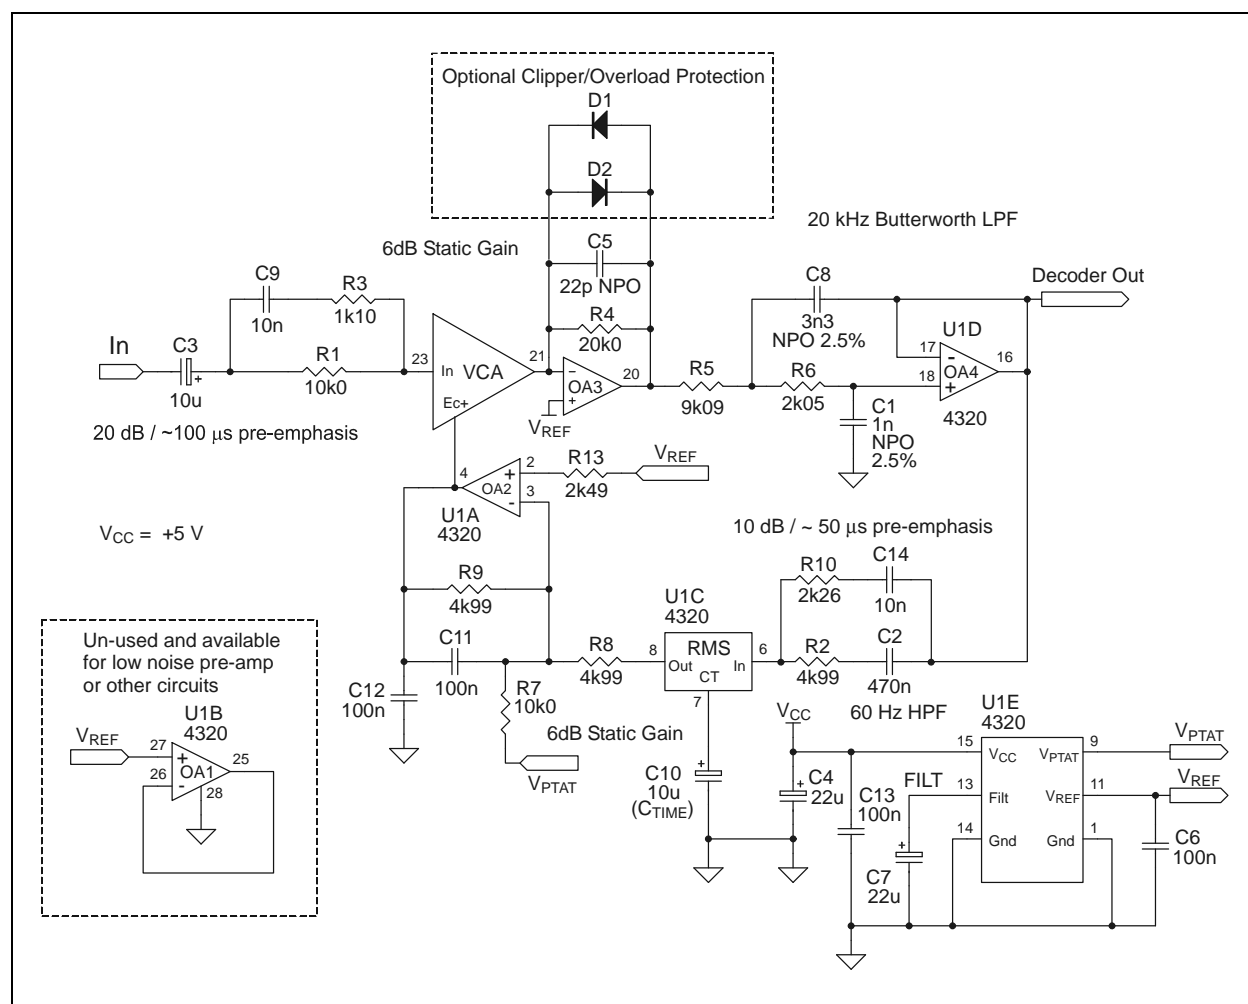
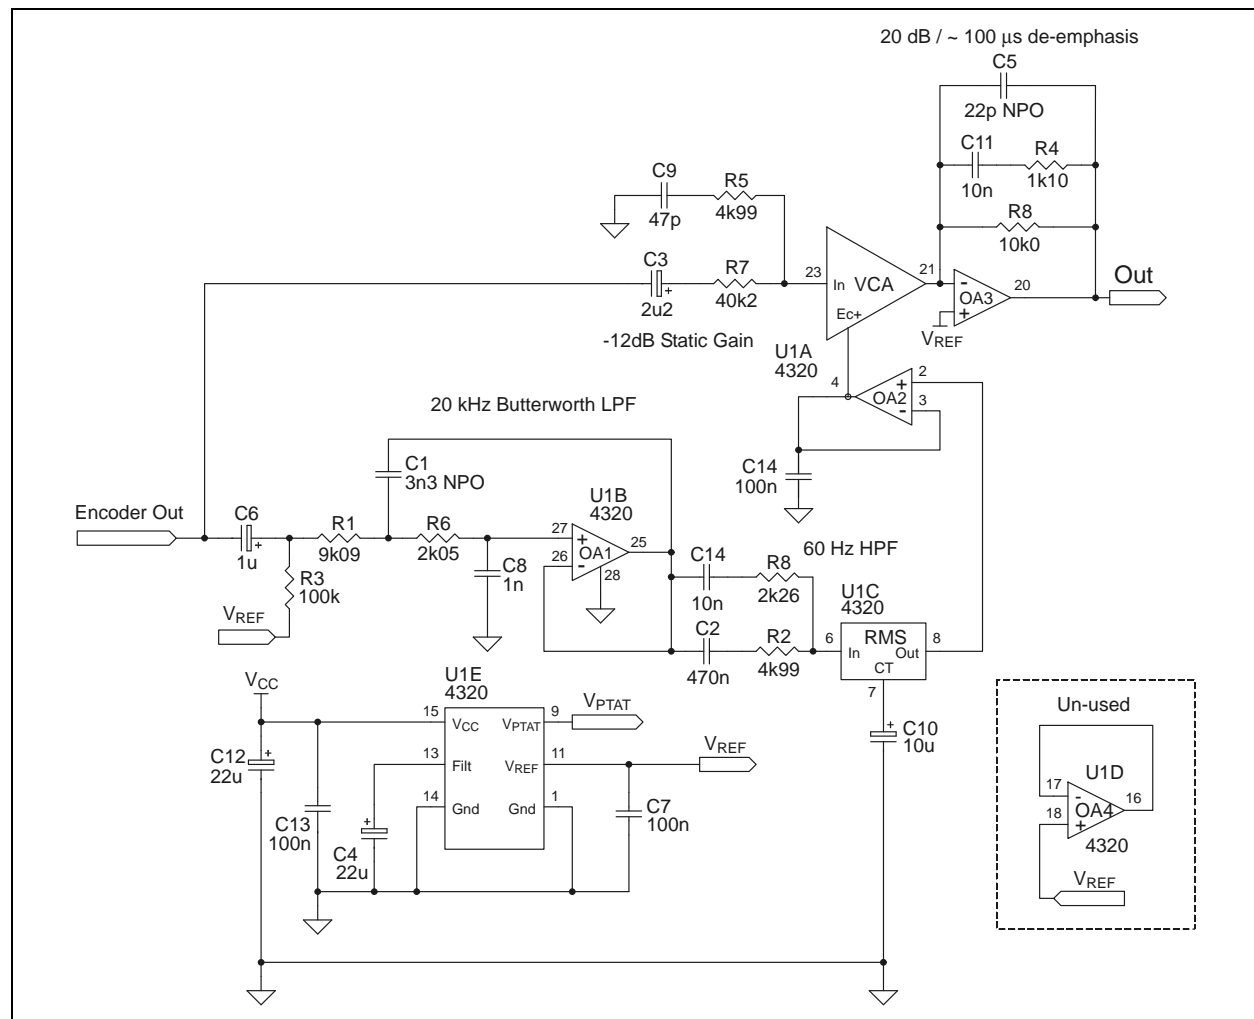

Figure 12. THAT4320 2:1 Encoder Circuit (QSOP-28 pin assignments shown)
Figure 13. THAT4320 2:1 Decoder Circuit (QSOP-28 pin assignments shown)
6. Compressor circuit is as shown in Figure 12. Expander circuit is as shown in Figure 13.
Figure 12 shows a simple 2:1 encoder or feedback compressor. The encoder in a wireless companding system is located in the transmitter and generally operates from a battery supply.
As described in the Theory of Operation section "The RMS Detector - In Brief" (on page 9), the RMS detector is capable of driving large spikes of current into the averaging capacitor C_{TIME} . To prevent these currents from upsetting circuit grounds, it is necessary to bypass V_{CC} to a point very near the grounded end of the C_{TIME} with a capacitor (C_4 in Figure 12) equal to or greater than the value of C_{TIME} . The grounded ends of these two capacitors should be connected together before being tied to the rest of the ground system. Doing so will ensure that the current spikes flow within the local loop consisting of the two capacitors, and stay out of the ground system. This requirement applies to the decoder and other applications of the THAT4320 as well.
Figure 13 shows the THAT4320 configured as a 2:1 expander, an arrangement intended to complement the encoder in Figure 12. This circuit is optimized for low-voltage operation, as might be the case for a decoder in an in-ear monitoring system which will run from battery power.
The pre-emphasis network from the VCA input in Figure 12 is now in the feedback loop of OA₃; This provides de-emphasis. The VCA is set up with -12 dB of static gain to keep output signal levels low for battery operation. Because the VCA is not stable unless it sees a high frequency source impedance of 5 kΩ or less, R₅